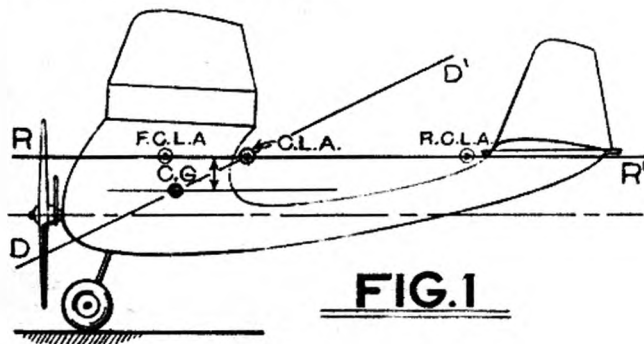
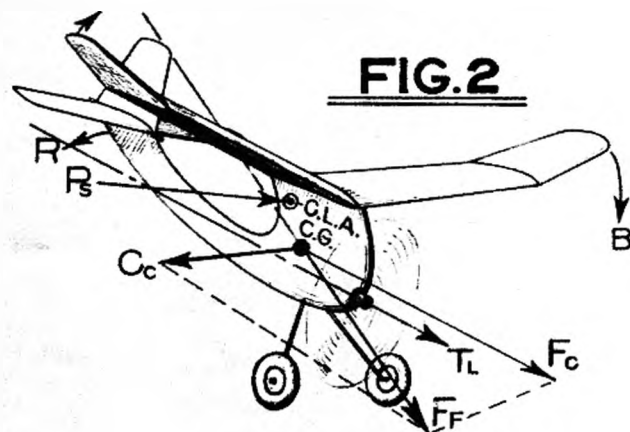

FIG. 1
FIG. 2
This discussion of spiral instability concerns the center of lateral area and is prompted by a letter from Harry C. Brown—the gremlin of spiral instability apparently has paid him a visit. He tells us that he has built and flown a plane called *The Pipe*, a side view of which is shown in Fig. 1, and he comments as follows:
An adherent of the CLA theory need only look once at Mr. Brown's design to know definitely why it has spiral tendencies. In fact, it would be impossible for the ship to act in any other manner. First of all, it is not because of the cambered stabilizer used but because the CLA is far above the center of gravity (CG) as indicated in Fig. 1. In order to possibly clear up the result of a lot of misinformation concerning CLA effect, let us first consider that this plane is flying in a straight level path. Due to the torque effect of the propeller or to some other external force, the plane banks slightly to the left, arrow B, Fig. 2, and the tail swings slightly to the right, R. The plane does not immediately turn to the left with the bank because its mass or weight tends to keep on moving straight forward, arrow Ff. Consequently it crabs slightly sideways to the right through the air, as shown in Fig. 2. However, as the plane is nosed to the left the propeller thrust Tl, lift forces and other forces tend finally to direct it to the left from the original straight path of flight, Ff, while centrifugal pull Cc, is developed outward by the weight of the airplane.